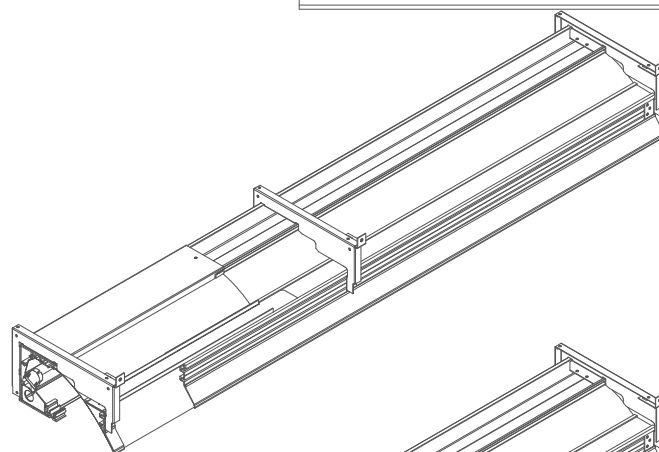

FIG. 6
9. REMOVE CEILING TRIM BY UNSCREWING SET-SCREWS THEN SLIDE CEILING TRIM TOWARDS THE WALL. NOTE IT IS NOT NECESSARY TO COMPLETELY REMOVE THE SET-SCREWS FROM THE CEILING TRIM. SEE FIG. 6 , 6A & 6B.